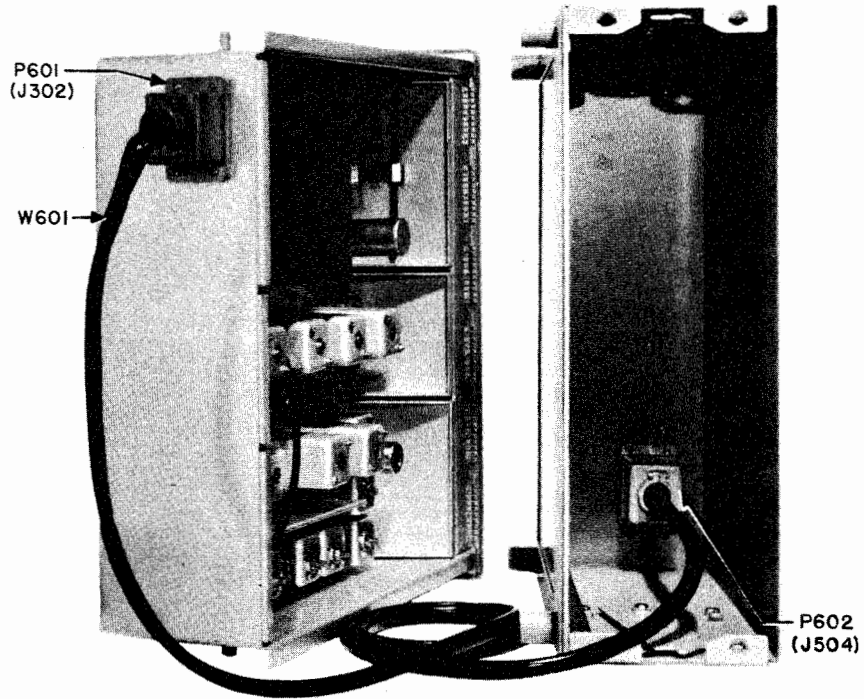

Figure 7-2. Receiver and Case, Connected by W601 Cable
(3) Connect test cable W601 between the receiver chassis receptacle J302, and the rear panel case receptacle J504 (see figure 7-2).
(1) Remove the receiver chassis from the case and connect these two units by means of the W601 test cable. (See figure 7-2.)
(2) Connect the signal generator (50 ohms output impedance) to the 50 ohm ANTENNA input on the rear panel, or the RF connector J101 on the RF chassis. Adjust the signal generator output to the desired signal strength. Throw the receiver POWER switch and the NOISE LIMITER switch ON and allow the set to warm up.
(3) Rotate the SQUELCH threshold control, from a fully clockwise setting toward the fully counterclockwise position, until the point is reached where the signal causes the squelch to open. Leave the control at this point. Remove the signal generator and reconnect the antenna.